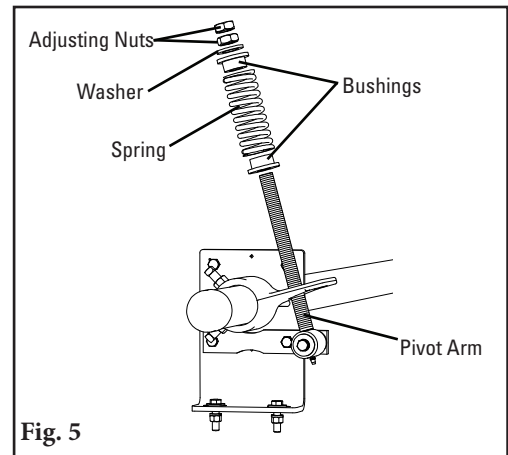

Fig. 5
12. Reassemble the spring assembly. Slide the spring, washer and bushings onto the pivot arm and turn the two adjusting nuts so about 6mm (1/4") of the pivot arm is exposed above the nuts (Fig. 5).